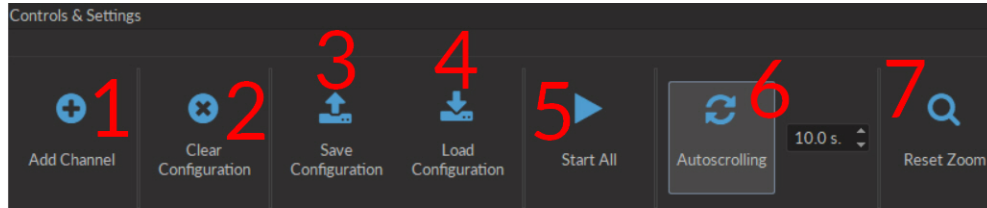

Figure 2.5: Control & Settings Box
1. The **Add Channel** button (Fig. 2.5) opens the **Channels configuration** window. This window is detailed in section 2.1.1.
2. The **Clear configuration** button (Fig. 2.5) resets the acquisition view and all other parameters set. Any configurations already set will be lost.
3. The **Save configuration** button (Fig. 2.5) allows an OTPG configuration to be saved in the **.doric** format.
4. The **Load configuration** button (Fig. 2.5) allows an OTPG configuration in **.doric** format to be loaded.
5. The **Start All** button (Fig. 2.5) activates all prepared channels.
6. The **Autoscrolling** button (Fig. 2.5), when clicked, makes the graphs scroll as new data appears. The duration (in s) kept on display is defined in the box beside the button.
7. The **Reset Zoom** button (Fig. 2.5) resets the horizontal axis of all graphs displayed in the **Acquisition View** to the duration chosen in the **Autoscrolling** box.